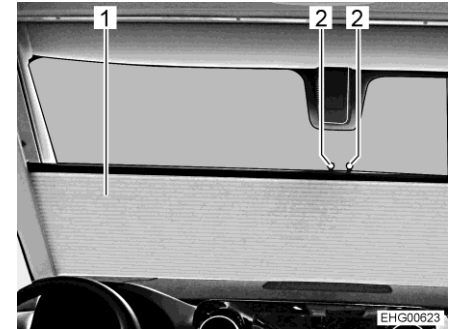

Fig. 73 Screen
- Pull up or push down the screen (Fig. 73,1) to the desired position by the two handles (Fig. 73,2).